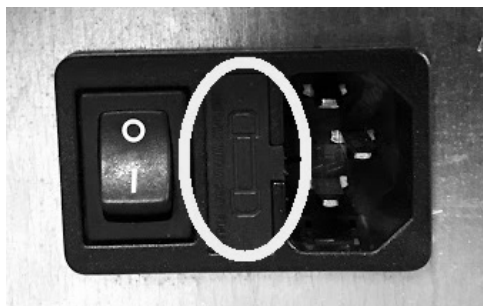

Fig. 46 - Shutter with fuses to remove
- For fuse replacement in the electric socket which stands on the back of the stove, extract the fuses to change with the aid of a screwdriver for opening the shutter (see **Fig. 46**).